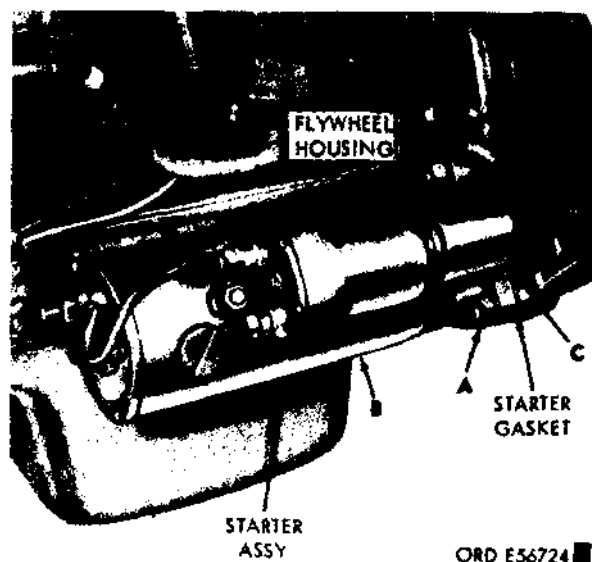

Figure 54.32. Starter.
(2) Disconnect cables at starter by removing nuts securing starter cable to starter (from top of starter and under vehicle). Remove cables from starter (figure 54.32).